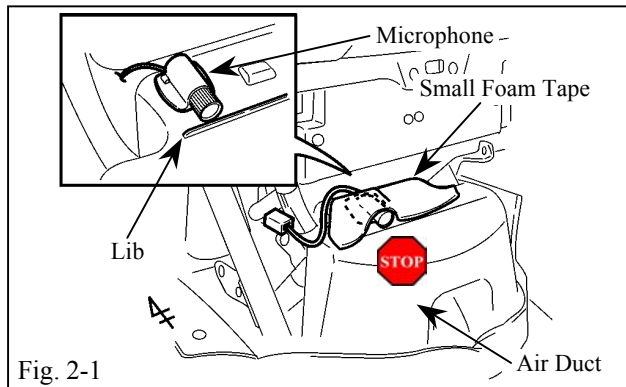

Fig. 2-1
- (a) Using the 3M™ Prep Solvent clean the microphone installation area. (Fig. 2-1)
- (1) Always use a clean (lint free scratch resistant) soft cloth (or wipe), and clean a small area at a time (~ 3 ft. x 3 ft. max.).
- (2) Shake well.
- (3) Apply 3M™ Prep Solvent-70 to cloth or wipe. Do not spray cleaning solution directly on any vehicle surfaces.
- (4) Clean surface thoroughly and wipe dry immediately with a new clean cloth. Do not allow cleaner to air dry.
- (b) Remove the backing sheet and secure the microphone onto the air duct. (Fig. 2-1)
- (1) Do not touch the adhesive surface of the microphone.
- (2) Do not cover the opening of the microphone with the foam tape.
- (3) Press the microphone to the air duct firmly.